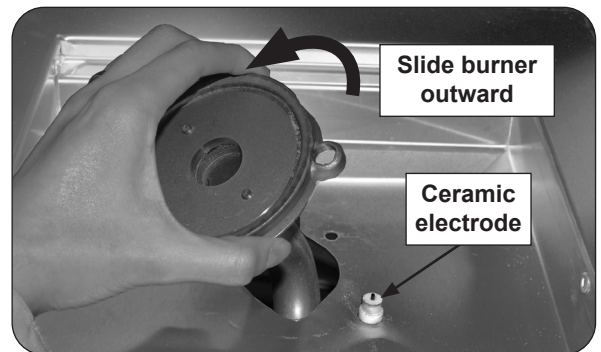

Fig. 37-2 Remove burner
3. From the top of the side burner shelf, lift the side burner upward, clearing the ceramic electrode (see Fig. 37-2), and pulling the burner tube away from the injector near the cart wall.
5. Carefully lift the burner up and out, clearing the ceramic electrode (see Fig. 37-2), and pulling the burner tube away from the injector located on the left side of the unit.